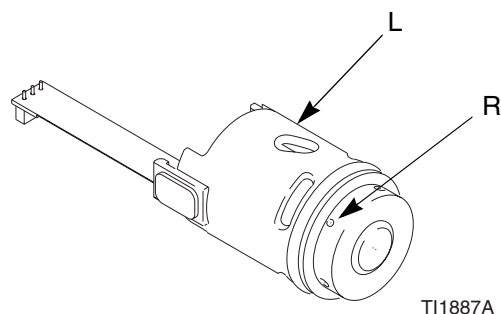

Fig. 2. Turbine Alternator
2. Visually inspect the turbine alternator (L). See Fig. 2. If any of the holes (R) are plugged, unplug them. If excess wear appears on the alternator bearings or shaft, replace or rebuild the alternator. See “**Accessories**” to order a Turbine Alternator Repair Kit.